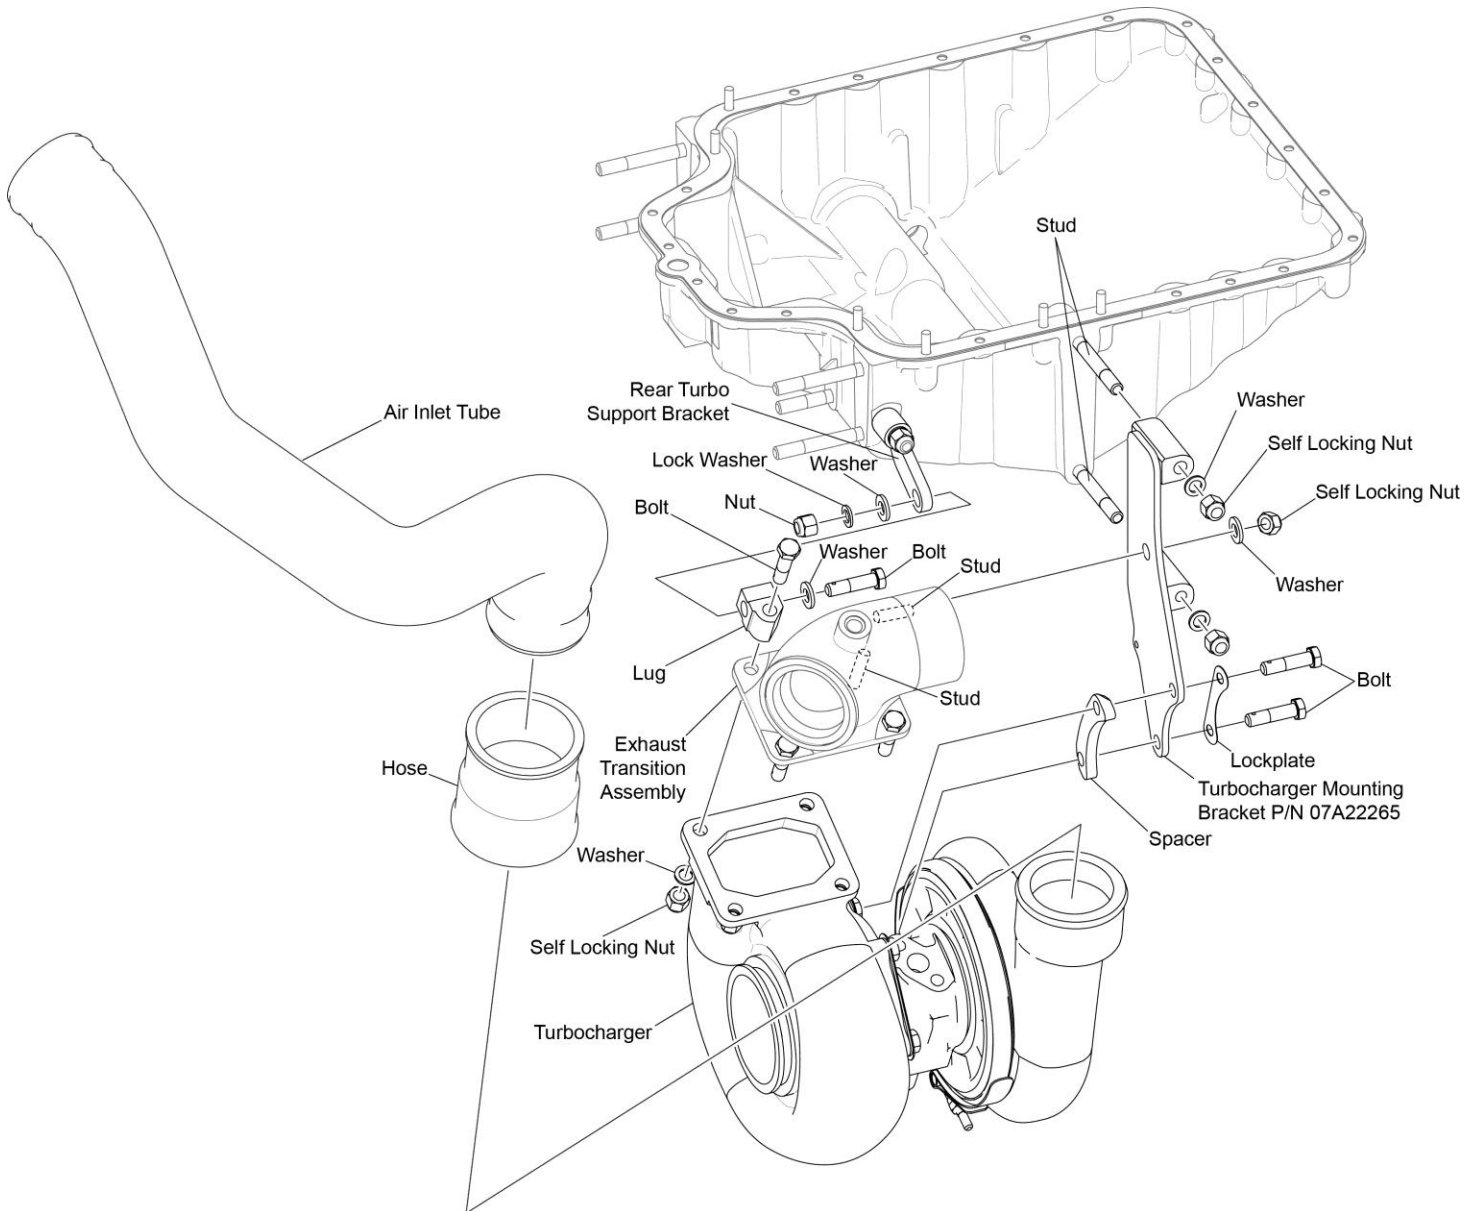

Figure 6
11. Disconnect the hose and air inlet tube from the turbocharger (Figure 6).
13. Remove the vertical bolt, washer, and self-locking nut from the lug on the exhaust transition assembly (Figure 6).
15. Remove the horizontal bolt, two washers, lock washer, and nut from the lug on the transition assembly and rear turbo support bracket (Figure 6). Discard the lock washer. Remove and keep the lug.
16. Support the turbocharger assembly and remove the self-locking nuts and washers from the studs and turbocharger mounting bracket on the oil sump (Figure 6). Discard the self-locking nuts.
18. Bend down the tabs of the lock plate (Figure 6).
19. Remove the two bolts, spacer, and lockplate that attach the turbocharger mounting bracket to the turbocharger (Figure 6). Discard the lockplate. Keep the spacer for reassembly.
20. Remove the self-locking nut and washer from the stud that attaches the turbocharger mounting bracket to the exhaust transition assembly (Figure 6). Discard the self-locking nut.
22. Remove the three bolts, three self-locking nuts and three washers that attach the exhaust transition assembly to the turbocharger (Figure 6). Discard the self-locking nuts.
3. Apply a uniform coat of Loctite® C5-A® anti-seize compound or equivalent to the stud (Figure 6) on the exhaust transition assembly.
4. Attach the exhaust transition assembly to the turbocharger (Figure 6) with the two bolts, three washers, and three new self-locking nuts hand-tight.
5. Install the lug on the exhaust transition assembly with the vertical bolt, washer, and new self-locking nut (Figure 6) hand-tight.
7. Install the new turbocharger mounting bracket P/N 07A22265 on the turbocharger (Figure 6) and the stud on the exhaust transition assembly with the two bolts, spacer, and new lockplate. Torque the two bolts to 160 to 190 in.-lb. (18 to 21 Nm). Bend the tabs (Figure 6) of the lockplate into place.
8. Install the turbocharger mounting bracket with the turbocharger and exhaust transition assembly on the studs on the oil sump (Figure 6) with the washers and new self-locking nuts hand-tight.
10. Install the horizontal bolt through the lug on the exhaust transition assembly with a washer, and new self-locking nut (Figure 6) hand-tight.
- B. Torque the nuts that attach the new turbocharger mounting bracket (Figure 6) to the oil sump to 30 ft.-lbs. (40.7 Nm).
- C. Torque the self-locking nuts that attach the exhaust transition assembly (Figure 6) to the turbocharger to 30 ft.-lbs. (40.7 Nm).
- D. Torque the nut that attaches the exhaust transition assembly to the turbocharger mounting bracket (Figure 6) to 30 ft.-lbs. (40.7 Nm).
19. Lubricate the inside of the hose for the air intake tube with engine oil mixture (15% pre-lubricant (STP or equivalent) and 85% SAE 50 mineral-base aviation-grade lubricating oil) and connect the air intake tube to the turbocharger (Figure 6). Torque the clamps to 35 in.-lb. (4 Nm).